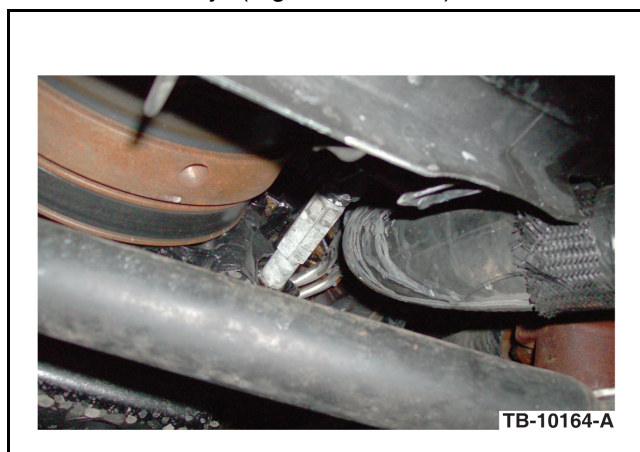

Figure 2 - Article 11-12-4
- a. Visually inspect all cooling system hoses/connections for evidence of coolant loss such as white coolant residue (dried coolant) or liquid coolant and repair as necessary. (Figures 2 and 3)